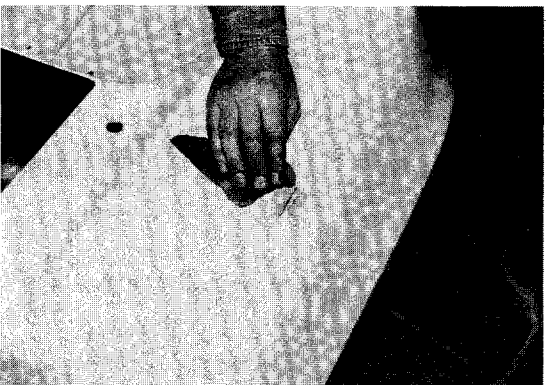

Figure 14-15
9. Clean and sand surrounding area (**Figure 14-15**).